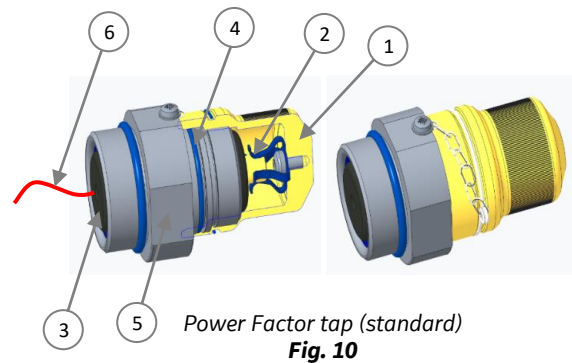

Fig. 10
During the operation, the connection tap must always be grounded. The PF tap is schematised in fig. 10.
It is advisable to check that the cap of the PF tap (see fig. 10) is well screwed. A forgetfulness of this generates during service a voltage on the tap that exceeds the insulation dielectric strength: this may lead to a catastrophic failure.
Don't unscrew the mounting flange item 5 of fig. 10: it fixes the PF to the bushing.